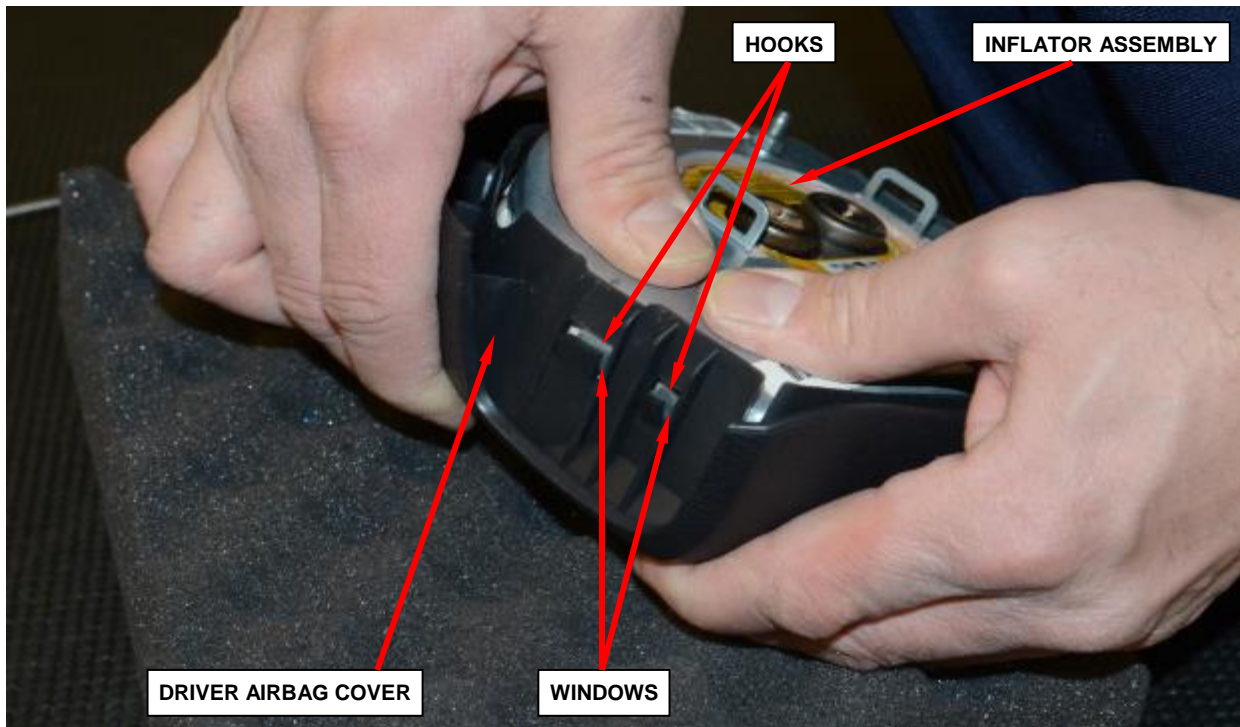

Figure 6 – Left Side Driver Airbag Cover to Inflator Assembly Hooks
11. Remove the driver airbag cover starting with the left side by pressing down on the inflator assembly until the hooks unsnap from the windows (Figure 6).